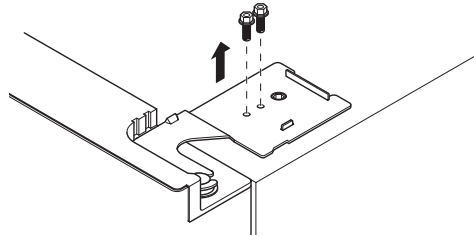

Fig.6 Removing hinge screws
- ② Undo screws holding down the hinge bracket (Fig.6).
- ③ Pull the door up and then away from the cabinet.